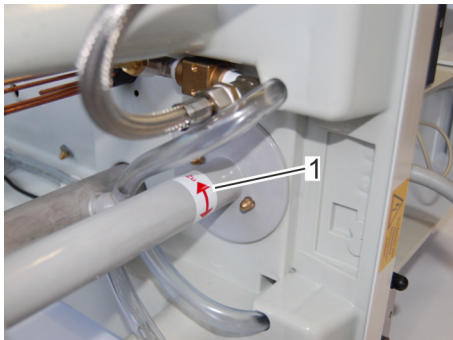

Fig. 49: Attaching the pump
9. ➤ Insert the water pump into the opening and turn in the direction of the arrow until it latches in and sits securely (Fig. 49/1).